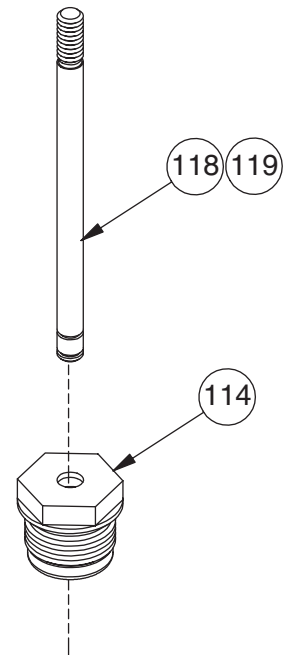

Figure 42
- 1. Place a drop of Shock Fluid (127) on the grooved end of each Shock Shaft [front (118), rear (119)]. Then slide Shock Shaft through hex end of an assembled Shock Cartridge Body (114). Slide the Shaft through until it is approximately midway between the threads as and the grooved end as shown in Figure 42.